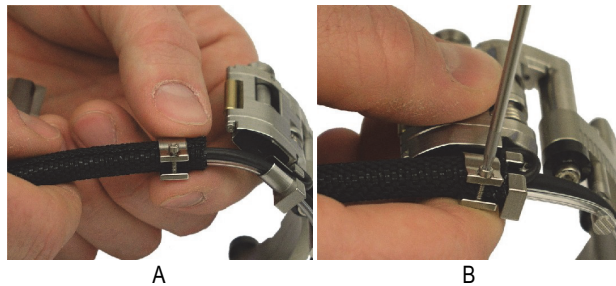

Figure 2-3 Installing the sleeve clamp
3. Install the sleeve clamp as follows (see Figure 2-3 on page 33):